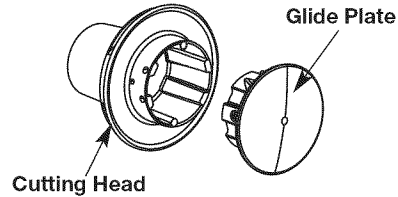

Fig. 10
3. Reinstall line glide plate (Fig. 10). The glide plate is a keyed item and will only fit one way. If it does not go into the cutting head smoothly, DO NOT force it. Rotate the glide plate until it slides into the cutting head easily.